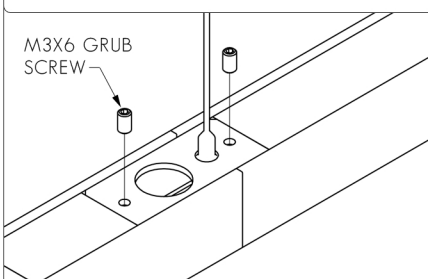

FIG. 2 - CHECK POSITION OF BRACKETS & DIFFUSERS
4. SLIDE DIFFUSERS INTO EXTRUSION (SEE FIG. 2).